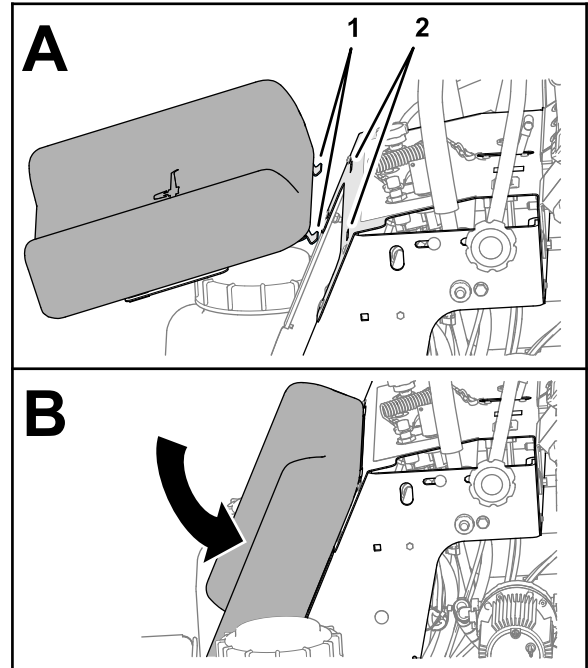

Figure 63
1. Insert the tabs of the knee pad into the slots in the control console (Figure 63).
2. Rotate the knee pad down (Figure 63).